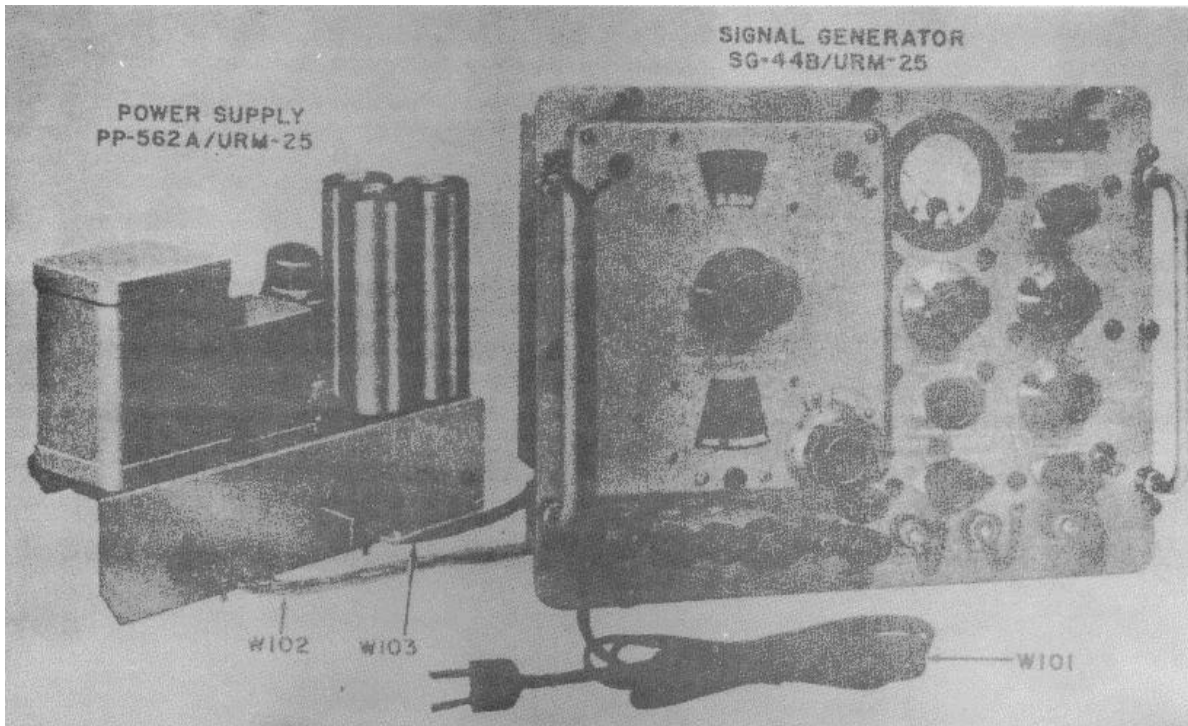

Figure 6-4. RF Signal Generator SG-44B/URM-25 and Power Supply PP 562A/URM-25 Connected Outside Cabinet for Testing
(2) With the signal generator and power supply sub-assemblies removed from the cabinet, the equipment can again be connected for use and testing by applying the following procedure (See figure 6-4).